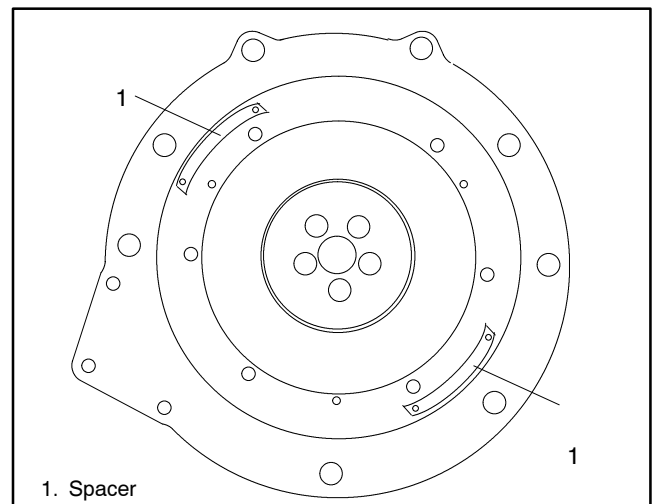

Figure 6-23 Engine Flywheel and Spacers
21. Remove six bolts securing remaining drive disc to flywheel. Note position of spacers before removing drive disc. See Figure 6-23.